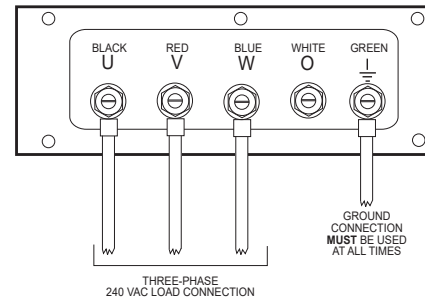

Figure 27. UVWO Terminal Lugs
2. Connect the load wires to the UVWO terminals as shown in Figure 27.